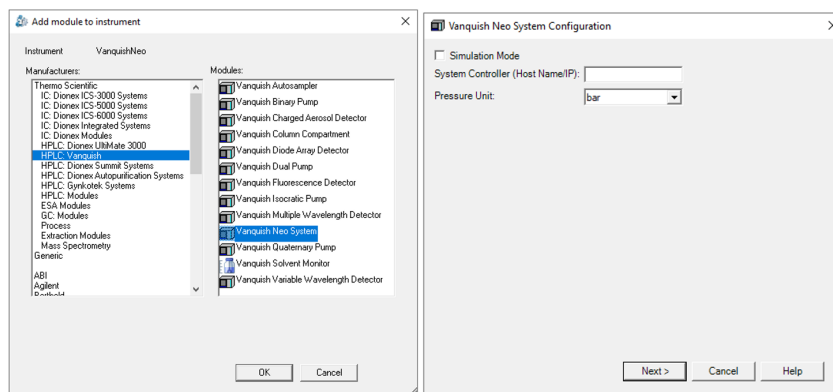

Figure 21: Add new module to the instrument and set the system controller IP address
3. Add a new module and select “HPLC: Vanquish” followed by “Vanquish Neo System”. Enter the Vanquish System Controller IP address (Figure 21). The IP address of the Vanquish Neo system can be displayed and modified on the Vanquish UI – Settings Panel – Connectivity. For details, please refer to section 4.1.4.